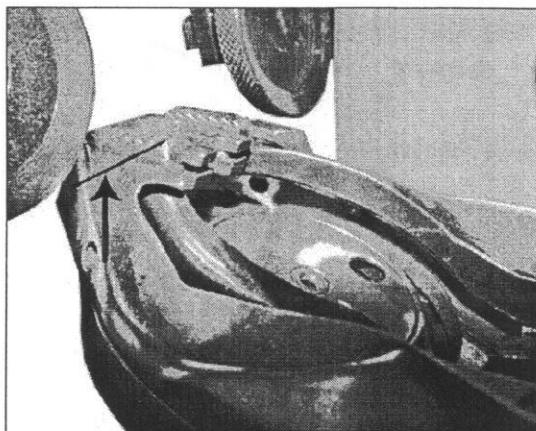
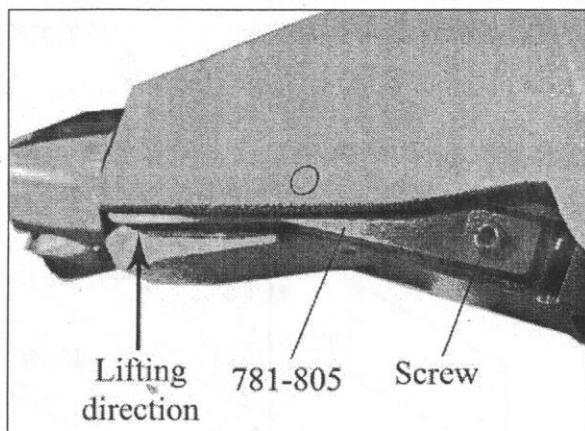

Fig.15
Fig.16
4.5 Adjusting the height of claws (Fig.15、Fig.16)
- Turn the pulley in the correct direction, till the claws come to its highest position. (Fig.15)
- Loosen the screw on the claw lifting lever (781-805) as shown in Fig.16.
- Lift the end of claw lifting lever (781-805) follow the arrow as shown in Fig.16, till the height of claw is suitable.